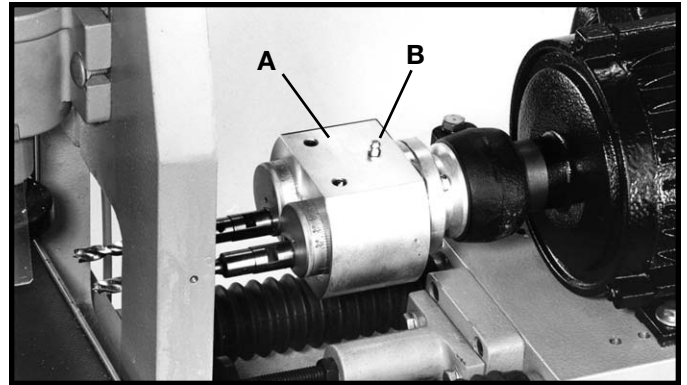

Fig. 38
The boring head assembly (A) Fig. 38, should be lubricated periodically with spindle grease Delta Part No. 999-02-023-1441 through the grease fitting (B).